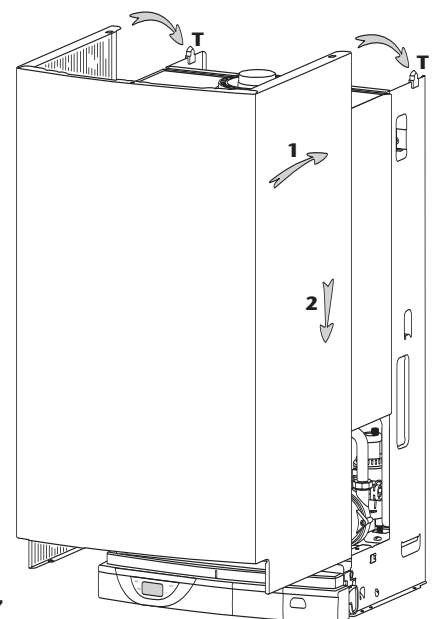

Fig. 17
- Position the casing as shown (**Fig. 17**)